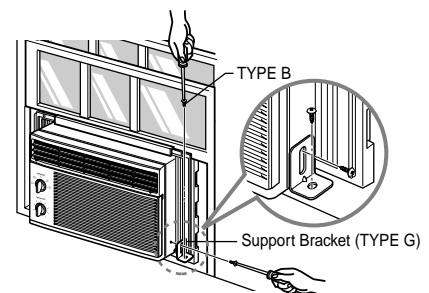

Figure 32
- b. Fasten the support bracket (TYPE G) using a removed screw. Attach the support bracket (TYPE G) in the inner window sill with a screw (TYPE B), as shown Fig. 32.